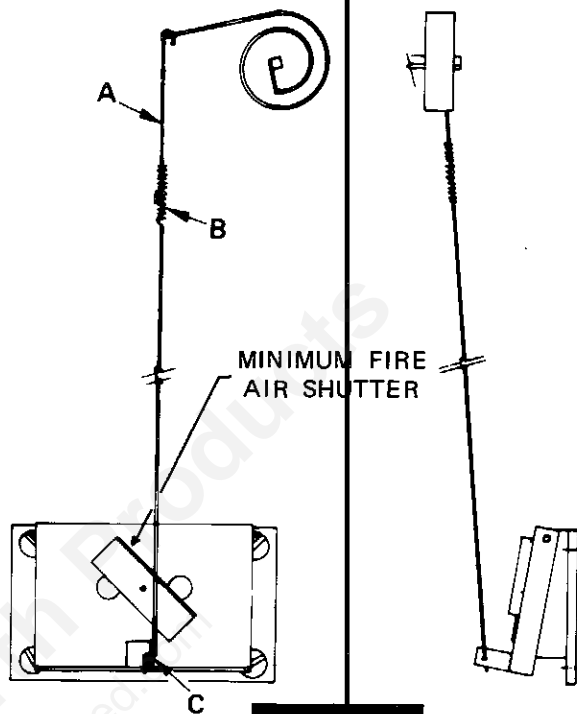

FIG. 16
- A. To increase the amount of heat at a "HIGH" setting, adjust the wire linkage to increase the draft damper opening (Fig. 16).
The burning rate at the low setting can be further adjusted by opening or closing the minimum fire air shutter (Fig. 16) on the draft control door.